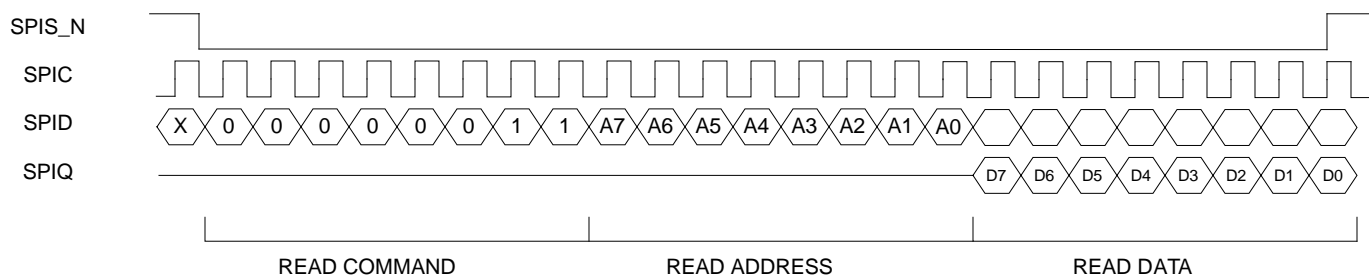
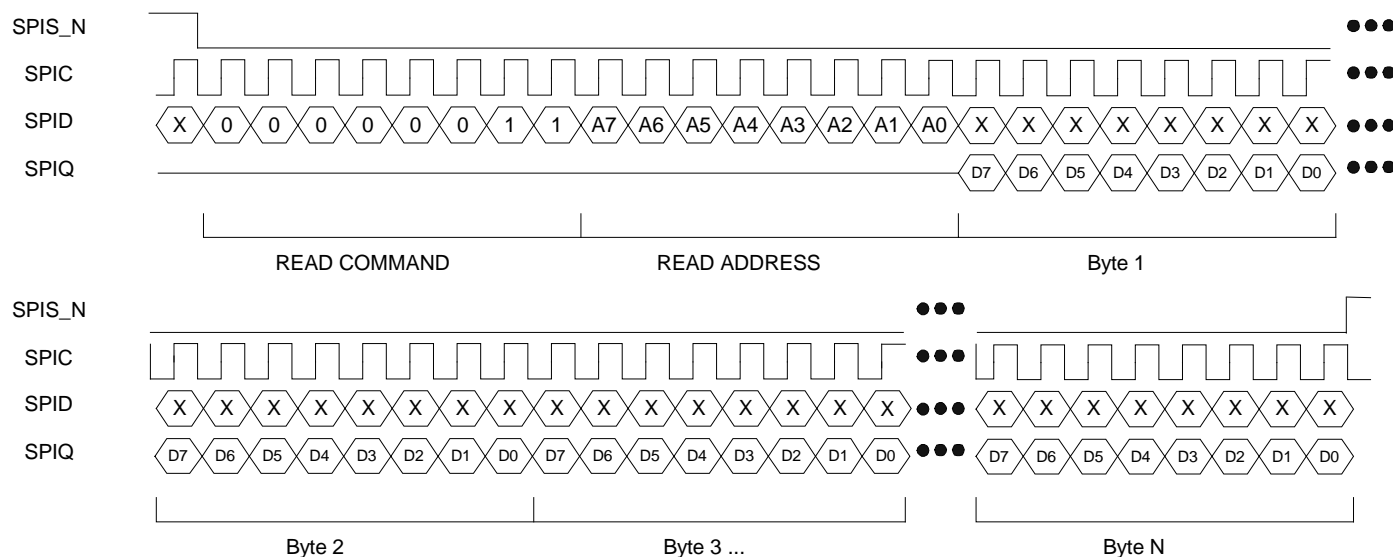

Figure 16. SPI Read Data Cycle
Figure 18. SPI Multiple Read
5. Registers can be read and configuration can be verified with a typical SPI read data cycle as shown in Figure 16 or a multiple read as shown in Figure 18. Note that read data is registered out of SPIQ on the falling edge of SPIC.